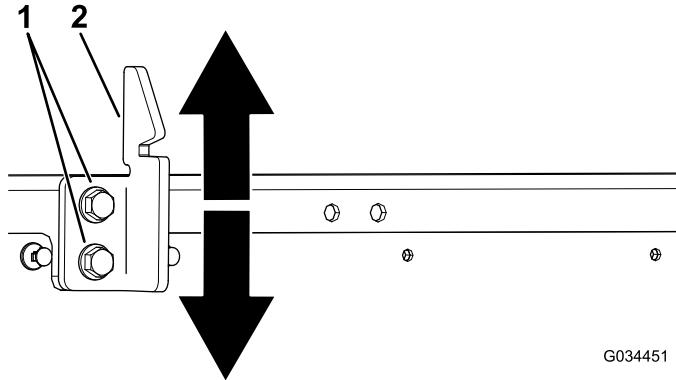

Figure 53
3. Loosen the 2 bolts on the box-latch striker and move the striker up or down, depending on if the striker is too high or too low (Figure 53).
4. Tighten the 2 bolts on the box-latch striker (Figure 53).